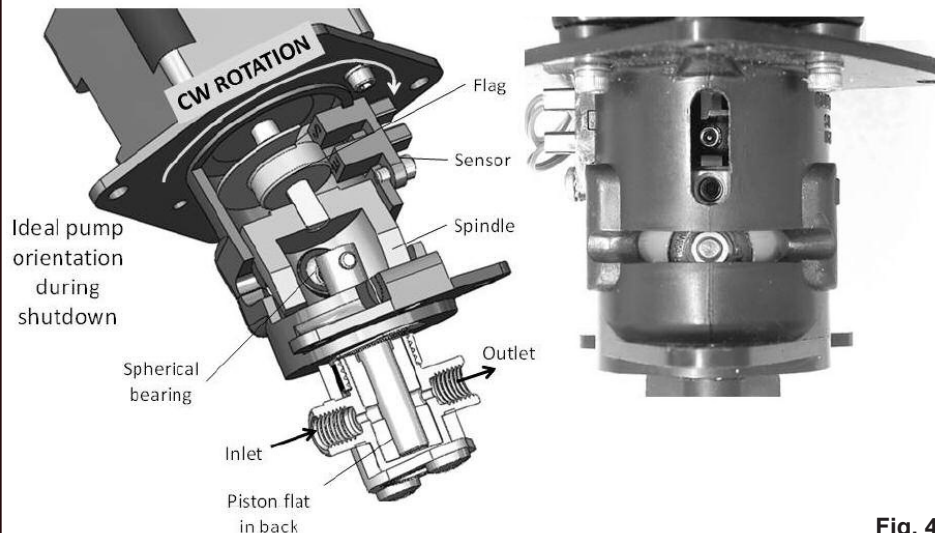

Fig. 4
3. Next, rotate Counter Clockwise 90 Degrees. The pump is now PARKED (see Fig. 4).